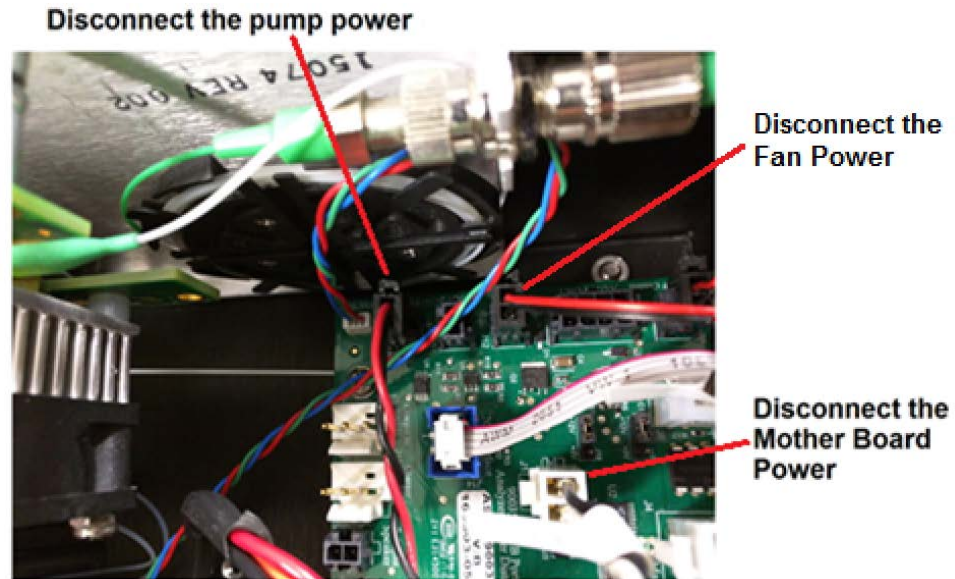

Figure 46. Analyzer Power Distribution Board
2. Remove the four nuts securing the fan to the inner enclosure. Figure 46.